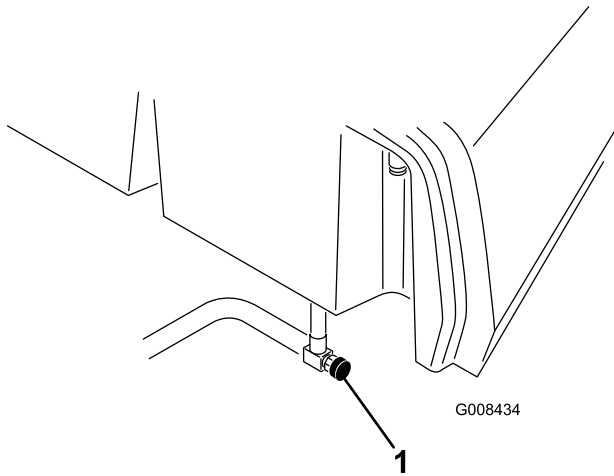

Figure 37
1. Close the fuel shutoff valve (Figure 37) below the fuel tank.